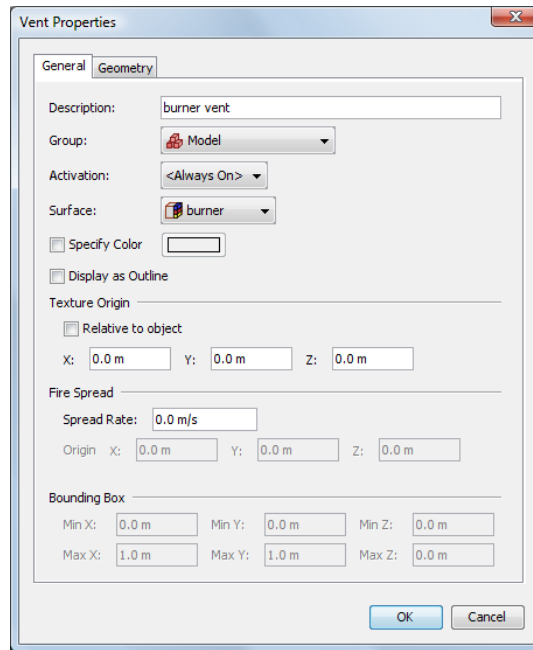

Figure 3.5. Creating the burner vent
2. In the **Description** box, type burner vent, Figure 3.5.